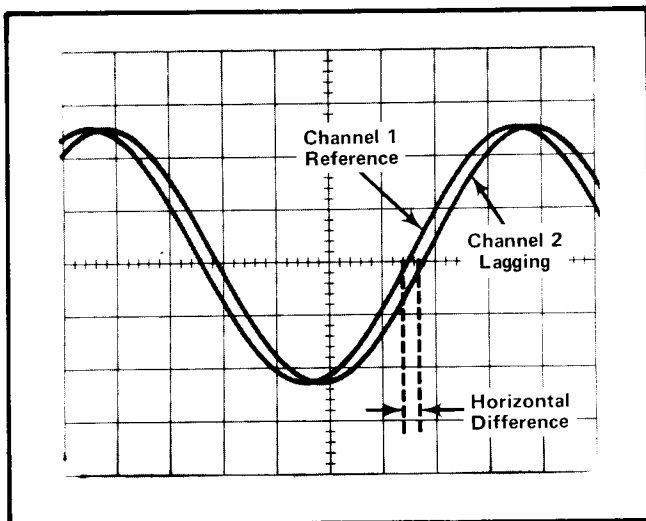
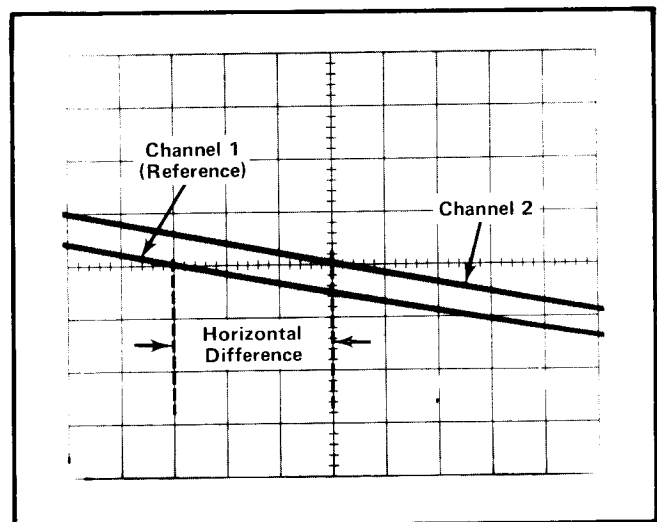

Fig. 1-6. Measuring phase difference between two signals.
Fig. 1-7. High resolution phase measurement using time-base magnifier.
8. Adjust the time-base Variable Time/Div control until one cycle of the reference signal occupies exactly eight horizontal divisions between the second and tenth vertical lines of the graticule (see Fig. 1-6). Each division of the graticule represents 45° of the cycle ($360^\circ \div 8 \text{ divisions} = 45^\circ/\text{division}$). The sweep rate can now be stated in terms of degrees as $45^\circ/\text{division}$.
EXAMPLE: Assume a horizontal difference of 0.3 division with a sweep rate of $45^\circ/\text{division}$ as shown in Fig. 1-6.
EXAMPLE: If the sweep rate is increased 10 times by the Magnifier, the magnified sweep rate is $45^\circ/\text{division} \div 10 = 4.5^\circ/\text{division}$. Fig. 1-7 shows the same signals as used in Fig. 1-6 but with the Magnifier set to X10. With a horizontal difference of 3 divisions, the phase difference is: